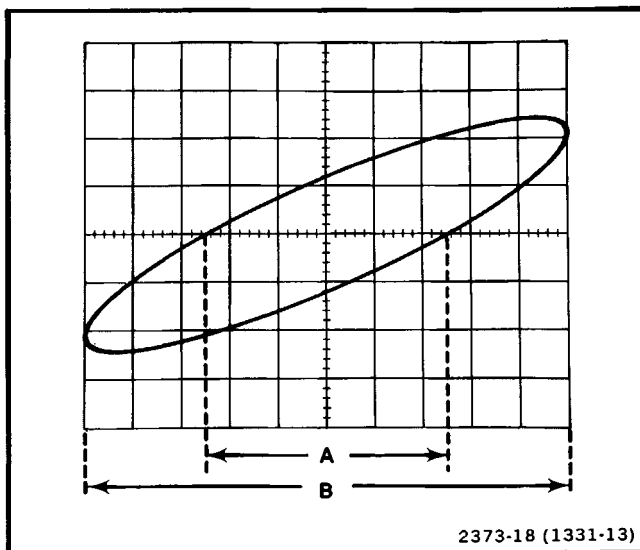

Figure 2-18. Phase difference measurement with an X-Y display.
3. Position the display to the center of the crt graticule area and adjust the Channel 1 and Channel 2 VOLTS/DIV switches to produce a display amplitude of less than 6 divisions vertically (Y) and less than 10 divisions horizontally (X). The Channel 1 VOLTS/DIV switch controls the horizontal deflection (X) and the Channel 2 VOLTS/DIV switch controls the vertical deflection (Y).
4. Center the display around the center graticule lines. Measure the distance A and B as shown in Figure 2-18. Distance A is the horizontal measurement between two points where the trace crosses the center horizontal line. Distance B is the maximum horizontal width of display.
EXAMPLE: To measure the phase of the display shown in Figure 2-18 where A is 5 divisions and B is 10 divisions, use the formula: